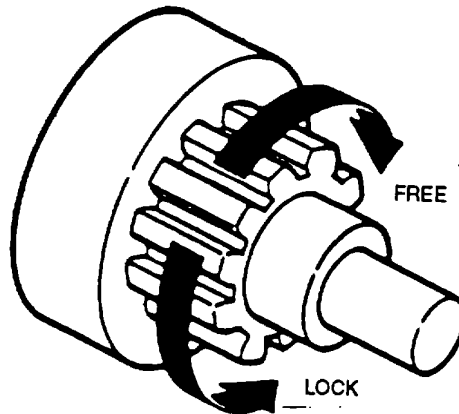

FIGURE 3-25. Overrunning Clutch
- g. When pinion gear is placed upon overrunning clutch, pinion gear should turn freely in one direction and lock when turned in opposite direction, refer to FIGURE 3-25.